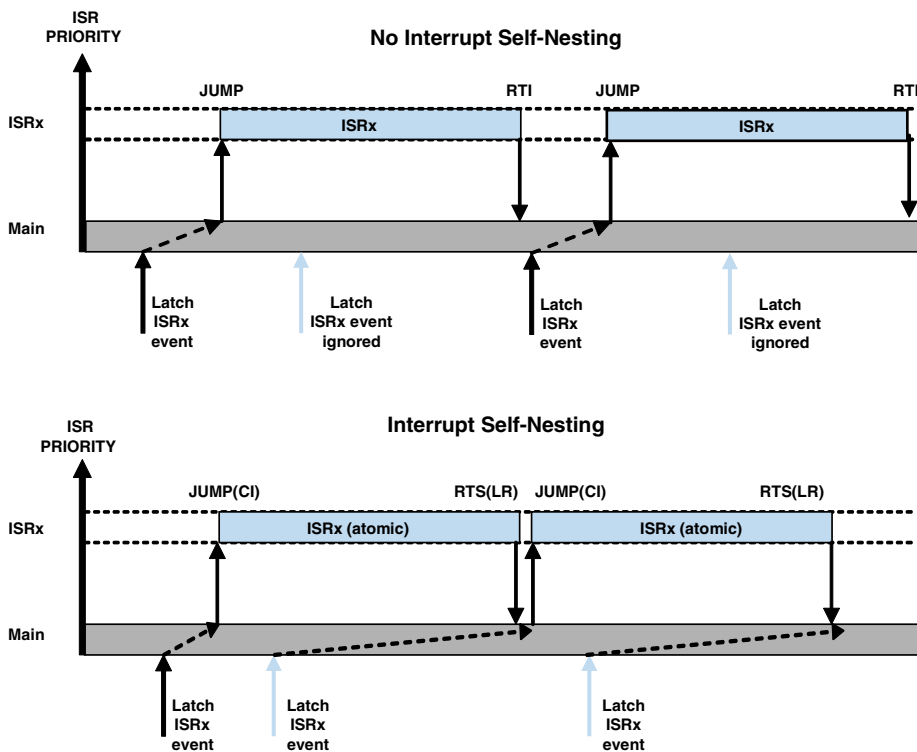

Figure 4-5. Interrupt Self-Nesting
The `JUMP (CI)` instruction reduces an interrupt service routine to a normal subroutine, clearing the appropriate bit in the interrupt latch and interrupt mask pointer registers and popping the status stack. After the `JUMP (CI)` instruction, the processor stops automatically clearing the interrupt's latch bit, allowing the interrupt to latch again (Figure 4-5).